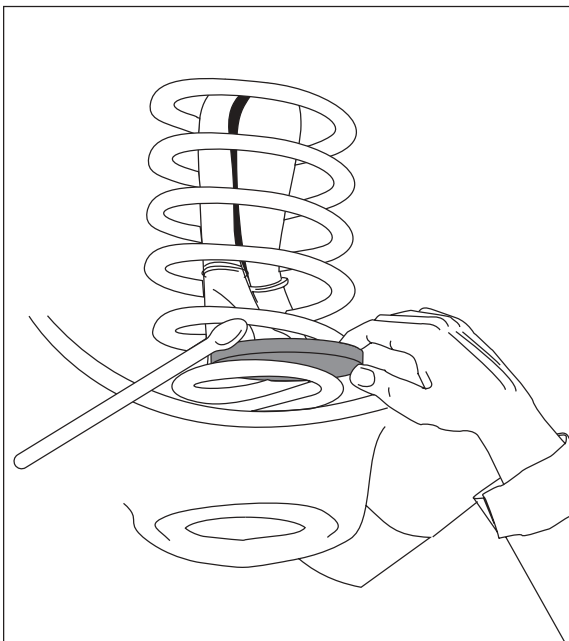

Figure 2
7. Push cylinder to the top of the coil and insert protector on top of lower spring seat (Figure 2).
If the vehicle has a rough and harsh ride it may be due to either too much pressure or not enough (fig. 2). Try different pressures to determine the best ride comfort.